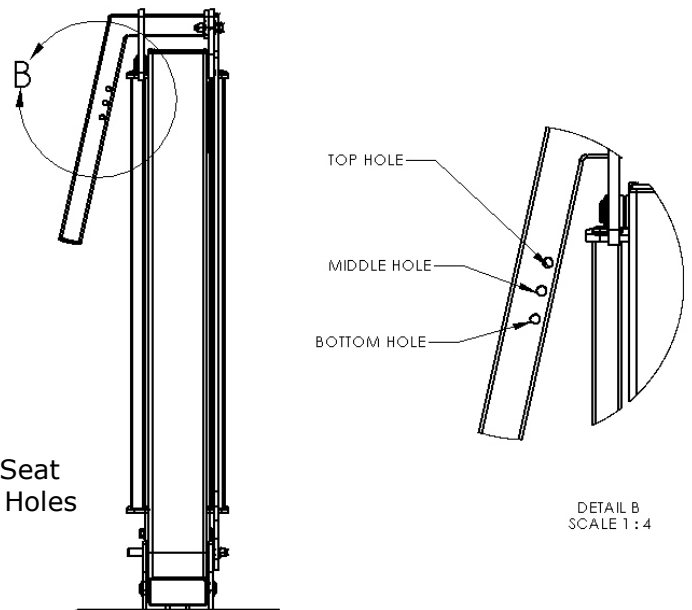
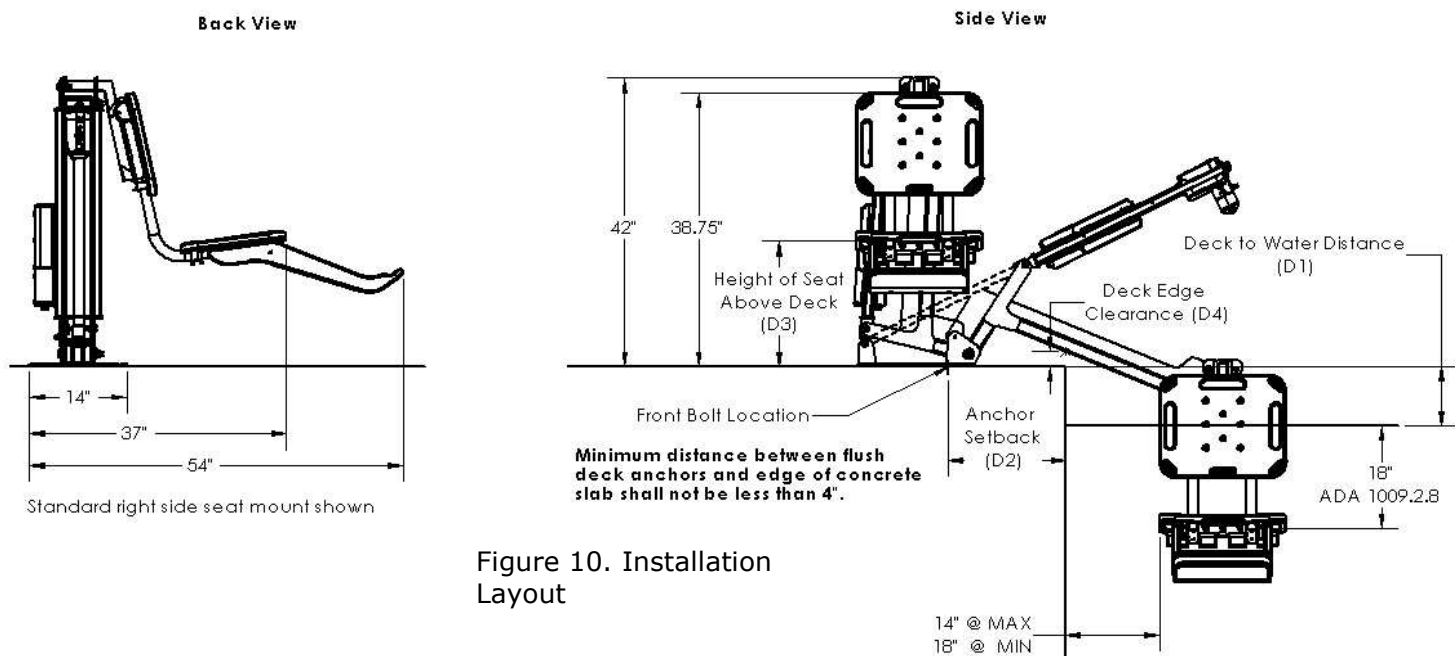

Figure 6. Seat Mounting Holes
Figure 10. Installation Layout
The ML300 has a mast height of 42 in / 106.6 cm above the deck. It is intended to be used with simple pool gutter configurations having a deck to water distance of no more than 8 inches, see Table 1 and Figure 10 to determine if the ML300 will work on a specific pool. The maximum weight capacity for ML300 is 300 lb/136 kg. Only persons healthy enough for water activities should use the ML300. Users should consult with their physician to determine if water activities are appropriate for the user.
12. Attach seat assembly with bolt and thumbnut in appropriate hole. Refer to **Figure 10** and **Table 1** to determine the correct seat mounting hole to use. Also see **Figure 6**.
The optimal mounting distance for the deck front anchors is 12.5"/ 31.75 cm from the edge of the pool. The front anchors can be installed up to a maximum of 17"/43.18 cm from the edge of the pool, but the deck edge clearance decreases the farther the lift is installed from the pool edge. The setback distance from the pool edge to the front anchor locations varies depending upon pool geometry. The ML300 is designed to be used with simple pool edge designs with deck to water level differences of 0" to 8" maximum. Review **Figure 10** and **Table 1** to determine the correct seat mounting location and anchor installation setback for your pool.
- Use **Figure 10** and **Table 1** to determine the proper location to install the lift, making certain that the front anchors are located the correct distance from the pool edge.
2. Use **Figure 10** and **Table 1** to determine the proper location to install the lift, making certain that the front anchors are located the correct distance from the pool edge.